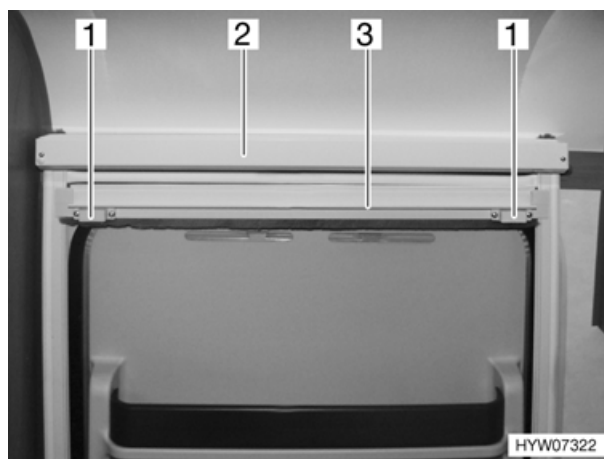

Fig. 14 Insect screen, conversion door
The insect screen of the conversion door is located in the upper blind box (Fig. 14,2).
- Pull the insect screen down by the bar (Fig. 14,3) until the magnets (Fig. 14,1) adhere to the metal bar on the floor.
- Pull the bar (Fig. 14,3) slightly upward until the magnets are released, then slowly guide the insect screen back into the blind box.